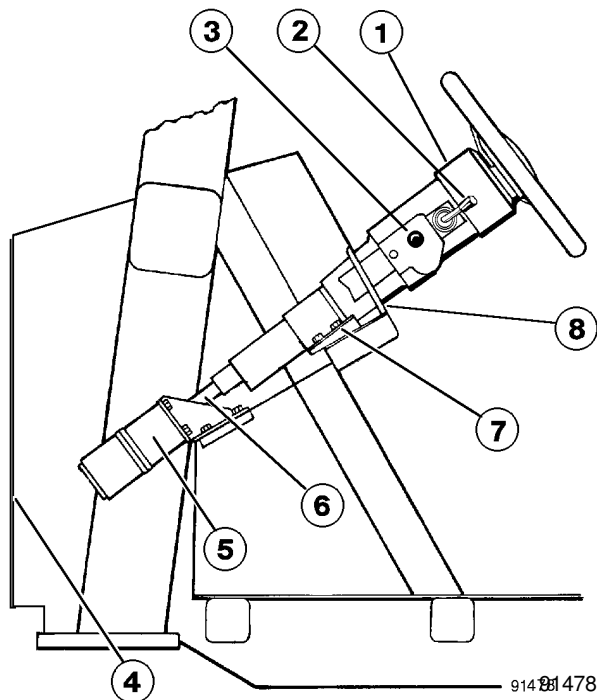

FIGURE 5-1. STEERING COLUMN INSTALLATION
Tilt angle is adjusted by pulling the tilt lever (3, Figure 5-1) toward the steering wheel and moving the wheel to the desired position. Releasing the lever will lock the wheel in one of five positions.
3. Remove the access cover (4, Figure 5-1) from the front of the cab.
5. Remove screws retaining seal retainer plates (8) where steering column enters the instrument panel. Remove both retainer plates.
6. Remove the four capscrews and washers (7) at the mounting bracket. (Access to these capscrews is from outside the cab, through the access opening.)
7. Lift the steering column to disengage the column from the steering shaft (6), and lift out of the instrument panel.